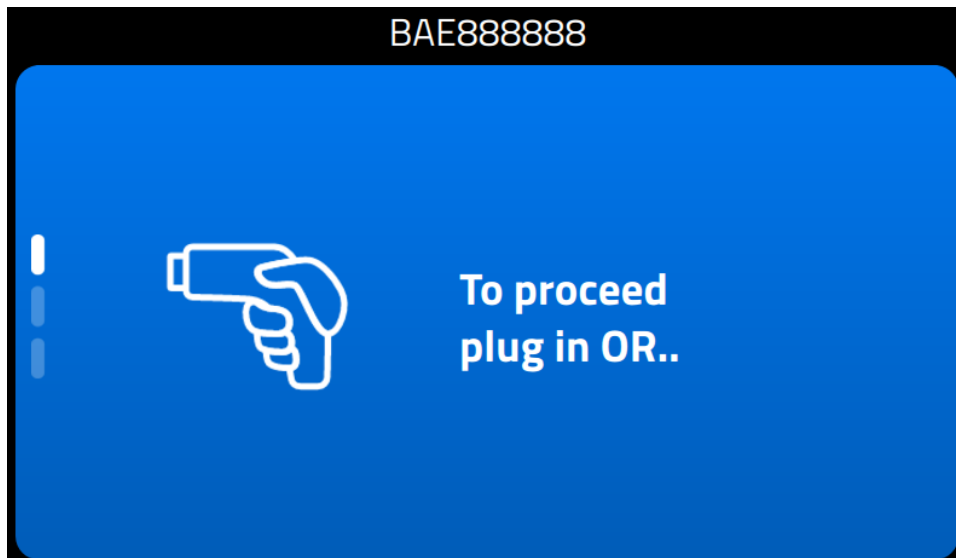

Fig. 52 – Idle screen plugin request
- There is a total of (5) five idle pages in the rotating cycle as shown below (Fig. 52 – 56)